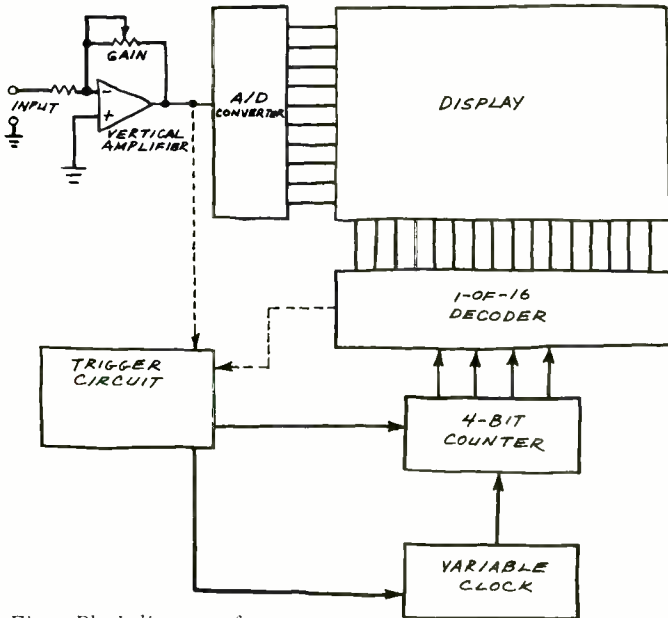

Fig. 1. Block diagram of typical solid-state scope.
**How They Work.** Figure 1 is a block dia-